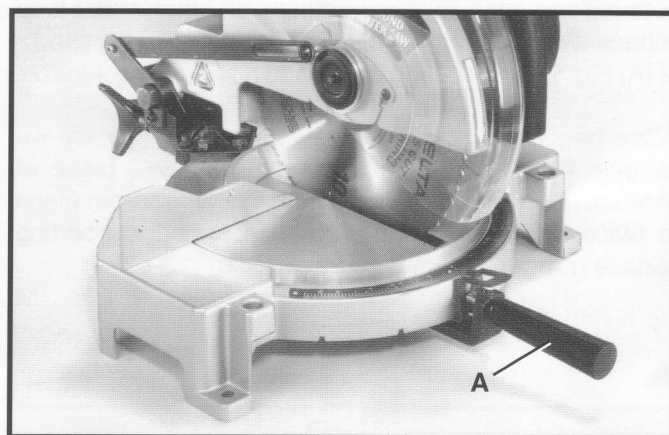

Fig. 5
2. Rotate table to the left until index stop engages with the 90 degree positive stop as shown in Fig. 5. Then tighten table lock handle (A).